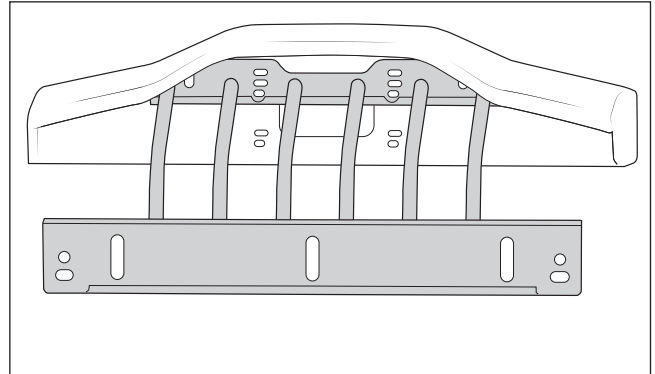

Figure 6
- B. For 2013 1/2 – 2018 trucks, the forward set of holes on the bumper will be used (fig. 6).